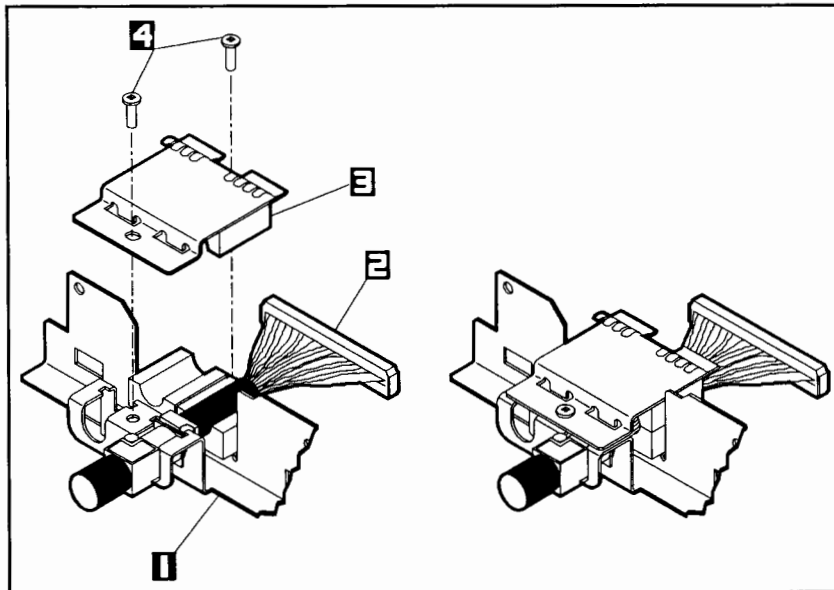

Figure 2-10. Installing the PBus Cable Clamp
- b. Remove the PBus cable clamp from the I/O panel. The clamp is held in place with two T15 screws. See Figure 2-10.
- c. Insert the strain relief fitting on one end of the PBus cable into the right-hand cable clamp cutout on the I/O panel. See Figure 2-10.
- d. Place the PBus cable clamp over the strain relief on the PBus cable. Make sure the clamp is positioned properly to hold the PBus cable securely in place. See Figure 2-10.
- e. Fasten the PBus cable clamp to the I/O panel using the clamp mounting screw. See Figure 2-10.